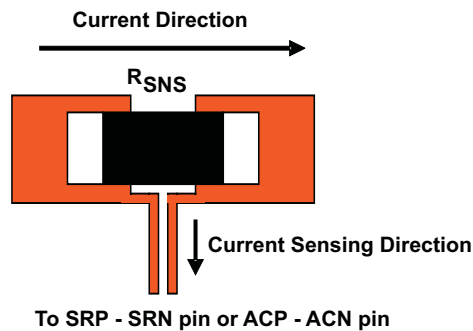

Figure 23. Sensing Resistor PCB Layout
4. The charging current sensing resistor should be placed right next to the inductor output. Route the sense leads connected across the sensing resistor back to the IC in same layer, close to each other (minimize loop area) and do not route the sense leads through a high-current path (see Figure 23 for Kelvin connection for best current accuracy). Place decoupling capacitor on these traces next to the IC.